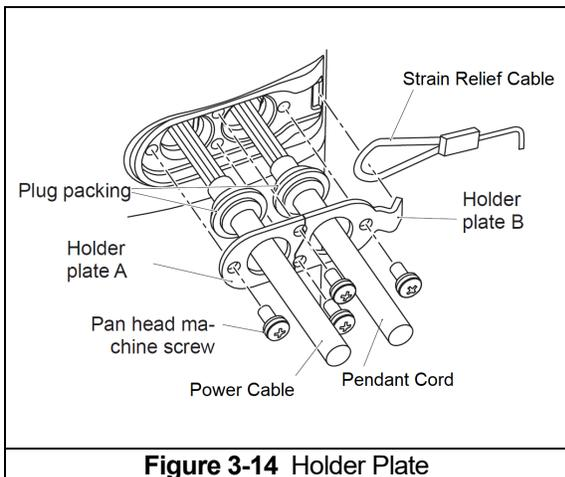

Figure 3-14 Holder Plate
- Remove the 4 machine screws that are used for Holder Plate A and Holder Plate B, and shift the holder plates away from the body onto the cables (see **Figure 3-14**).
- Insert the Power Cable (with 4P plug connector and Holder Plate A) into the top hole and the Pendant Cord (with 4P socket connector and Holder Plate B) into the bottom hole. Secure the Holder Plate A/B with the 4 Pan Head Machine Screws (see **Figure 3-14**).
- Secure the Cable Clamp with the Pan Head Machine Screws (see **Figure 3-14**) and reinstall the controller cover.